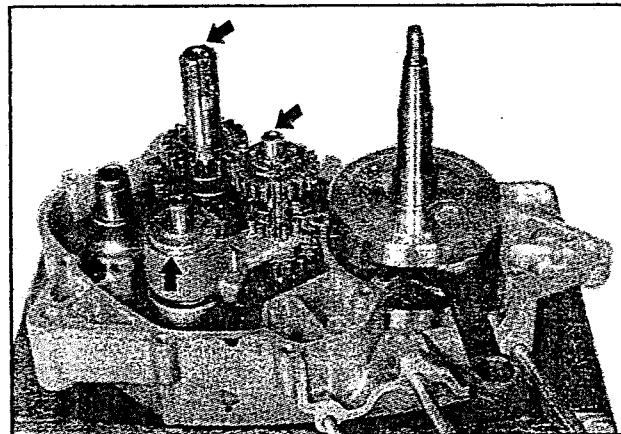
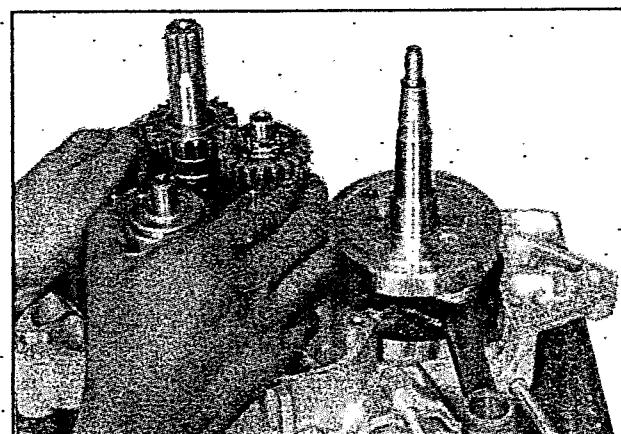

Fig 3.40
Fig 3.41
- Take off the counter shaft, drive shaft with kick starter idler gear and gear shift cam all together at the same time (fig 3.40 and fig 3.41)